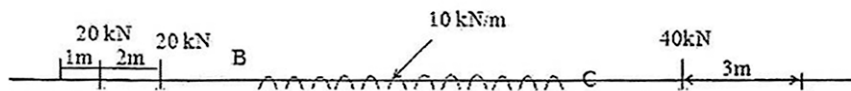

Fig. 2
12. a) Determine the reactions and support moments using theorem of three moments for the continuous beam shown in Fig. 2. EI is constant throughout the span.